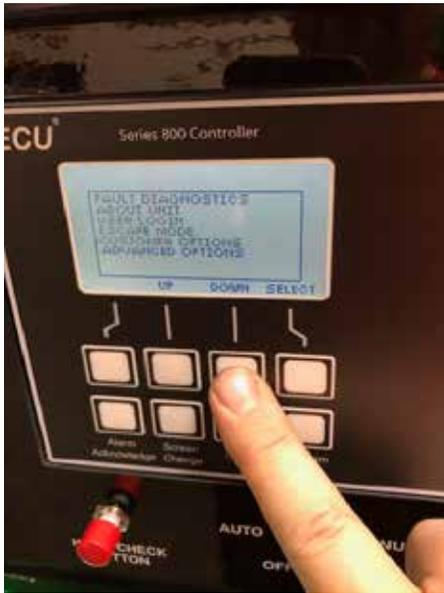

Figure 22. Customer Options
2. Scroll down the list and select **CUSTOMER OPTIONS** (Figure 22).